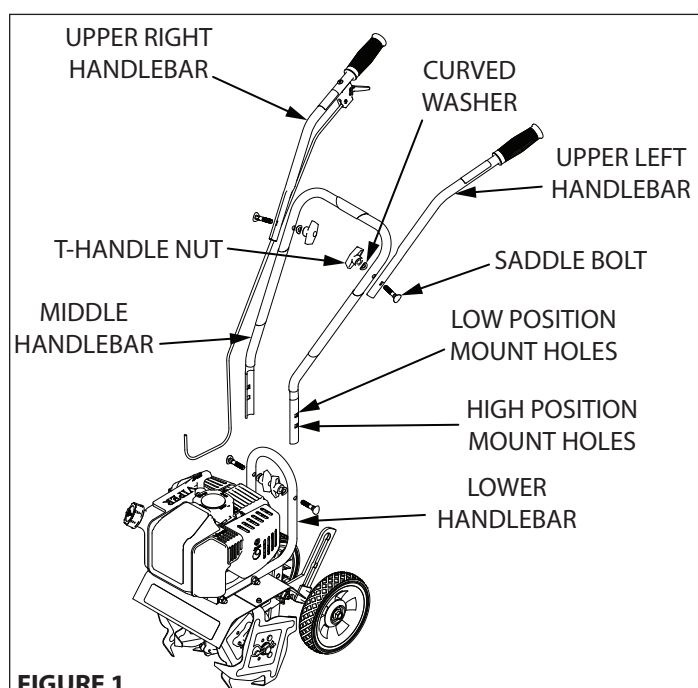

FIGURE 1
2. Using two T-handle nuts, two saddle bolts, and two curved washers, attach the middle handlebar to the lower handlebar that is already connected to the cultivator assembly. The middle handlebar can be installed in one of two positions, one high and one low. **DO NOT** overtighten the T-handle nuts. **SEE FIGURE 1**
3. Attach the upper right and left handlebars to the middle handlebar using the two remaining T-handle nuts, saddle bolts, and curved washers. **SEE FIGURE 1. DO NOT overtighten the T-handle nuts.**